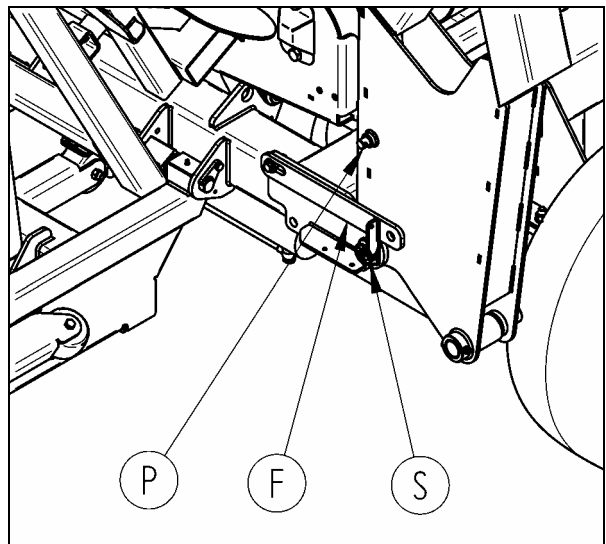

fig.6 – Safety bracket fork - working
Before using machine remove the plug (S) and lock the safety bracket (F) in horizontal position as indicated in fig. 6.